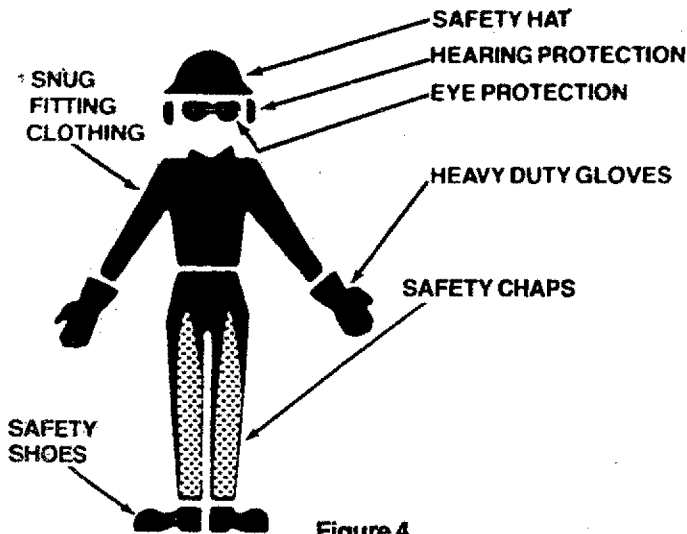

Figure 4
1. Wear protective gear. Figure 4. Always use steel-toed safety footwear with non-slip soles; snug-fitting clothing; heavy-duty non-slip gloves; eye protection such as non-fogging, vented goggles or face screen; an approved safety hard hat, and sound barriers — ear plugs or mufflers to protect your hearing. Regular users should have hearing checked regularly as chain saw noise can damage hearing.